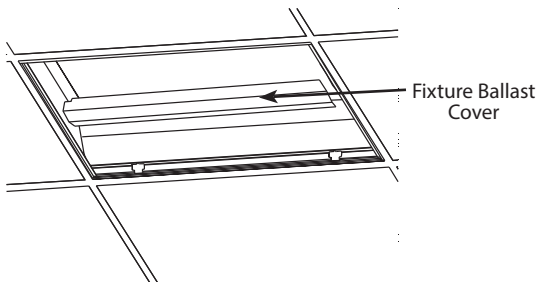

Fig: 4
2. **CAUTION: Ensure power is OFF. Disconnect Fixture Ballast from power. Cap Ballast input power wires (Fig. 4).**